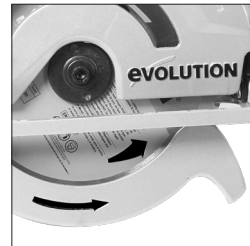

Fig. 3
- Ensure that the direction of rotation arrows printed on the blade, match the direction of the rotation arrows found on the machines upper and lower guards. (**Fig. 3**)